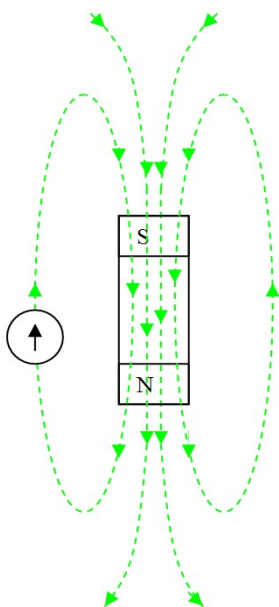

Figure 1: Dipole Field with Compass
1. The lines begin on a north pole and terminate on a south pole. This is actually only true for the field external to the magnet. Inside the magnet, the lines complete full loops and point from south to north. See Figure 1.
3. The magnetic field strength (B) is tangent to the field line at any point. Note that B is a vector.
A compass needle (small magnet) will align with the (average) B field at the region where the needle is as shown in Figure 1. Thus, we can use a small compass to trace the lines. Why wouldn't a larger compass work as well?